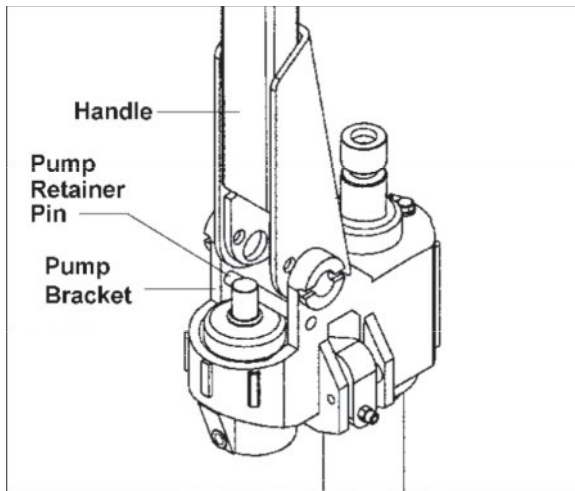

Figure 1
1. Insert the base of the handle into the pump bracket (Figure 1). Align the holes at the base of the handle with the holes in the pump bracket.
5. Tap out the pump retainer pin (Figure 1).